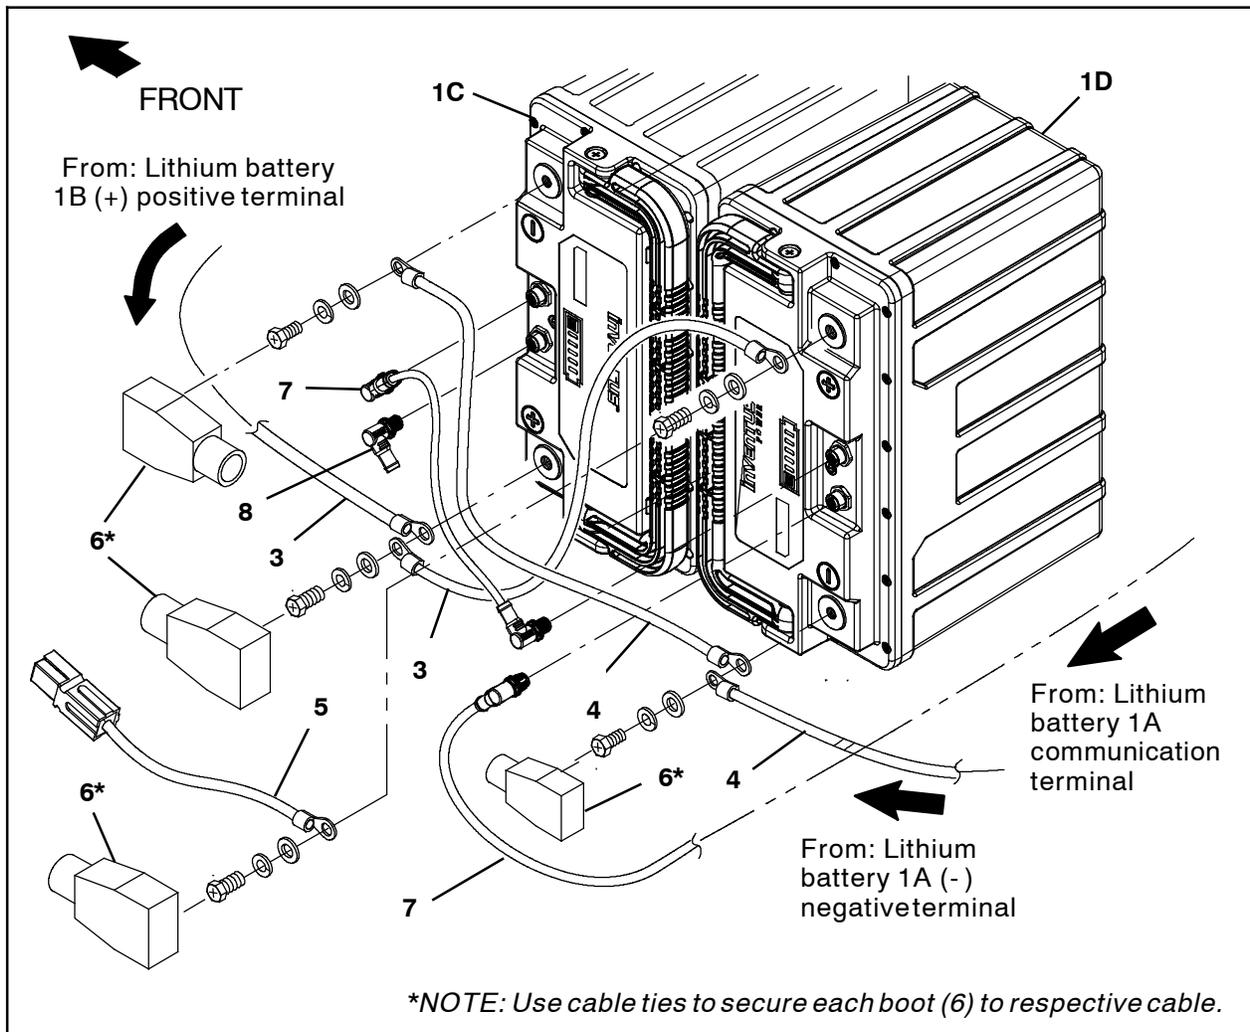

FIG. 41
35. Slide a boot (6) onto one 18 in. red cable (3) and connect the red cable and the 18 in. red cable (3) installed on lithium battery 1B positive (+) terminal to lithium battery 1C positive (+) terminal. Torque hex screw to 22 Nm (16 ft. lbs.). (Fig. 41)
36. Slide a boot (6) onto the other end of the 18 in. red cable (3) connected to lithium battery 1C positive (+) terminal and connect the 18 in. red cable and the 10 in. red cable (5) to lithium battery 1D positive (+) terminal. Torque hex screw to 22 Nm (16 ft. lbs.). (Fig. 41)
37. Slide a boot (6) onto one end of the 18 in. black cable (3) and connect the 18 in. black cable (3) to lithium battery 1C negative (-) terminal. Torque hex screw to 17 Nm (12.5 ft. lbs.). (Fig. 41)
38. Slide another boot (6) onto the other end of the 18 in. black cable (3) connected to lithium battery 1C positive (-) terminal and connect the 18 in. black cable and the 18 in. black cable connected to lithium battery 1A (-) negative terminal to the lithium battery 1D negative (-) terminal. Torque hex screw to 17 Nm (12.5 ft. lbs.). (Fig. 41)
39. Use cable ties to secure each boot (6) to the respective cable. (Fig. 41)
41. Connect one battery communication cable (7) to communication ports on both lithium battery 1C and 1D. (Fig. 41)
42. Connect the battery communication cable (7) connected to the communication port on lithium battery 1A to the open communication port on lithium battery 1D. (Fig. 41)
43. Connect the resistor plug (8) into the remaining open communication port on lithium battery 1C. (Fig. 45/Fig. 41)